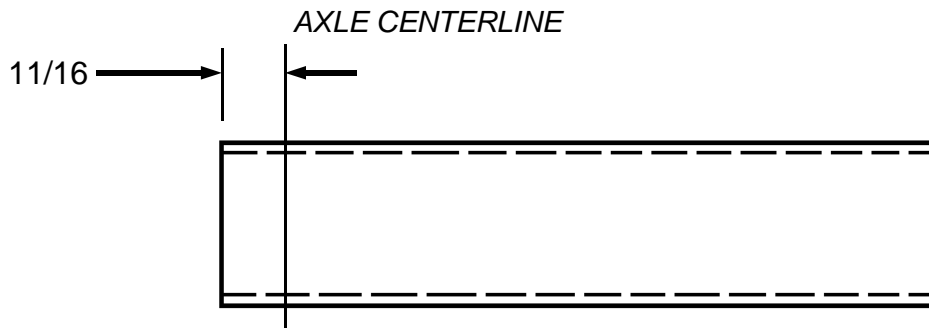
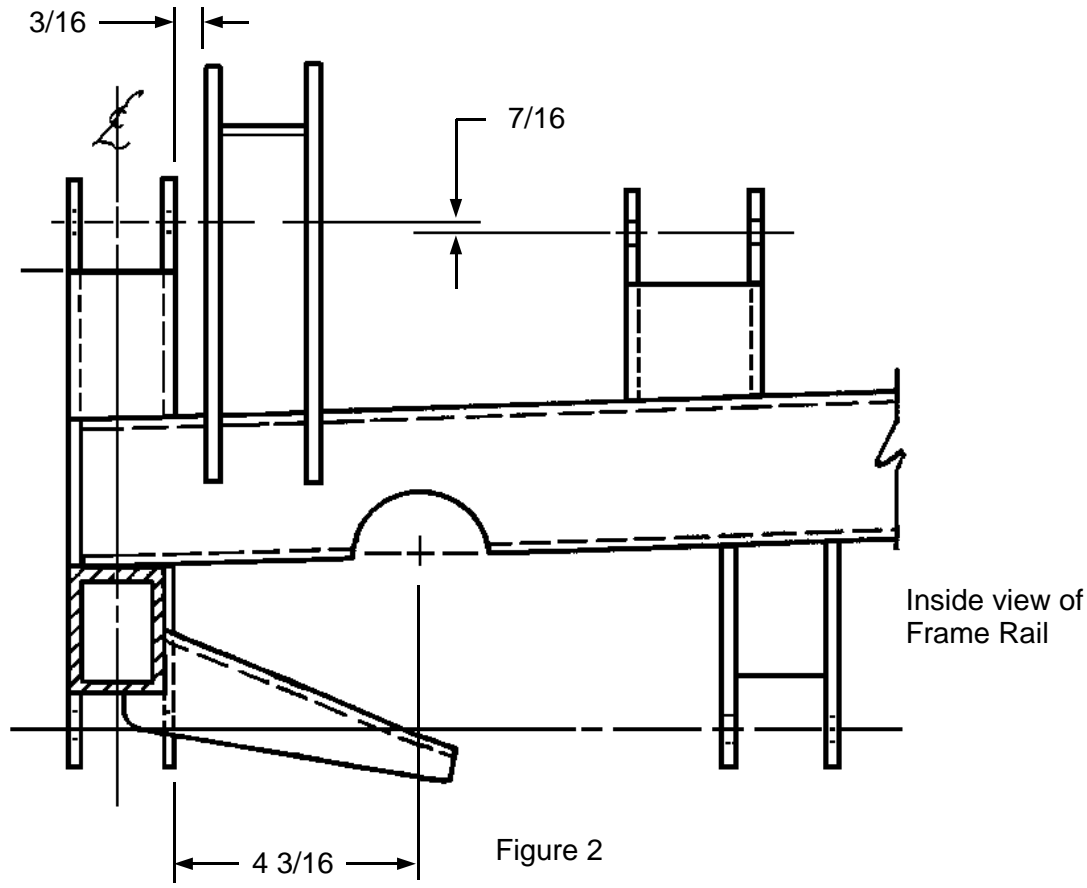

Figure 1
Figure 2
3. Locate your axle centerline markings. Make a new mark 11/16" forward of the axle centerline mark . See Figure 1. This mark is to be a cut line, scribed around the rails exactly vertical to the ground (not necessarily square to the rails) and straight across the front from rail to rail. The crossmember has front plates on it which will cap the fronts of the rails, so you can see how the rails need to be trimmed. It is important that the crossmember be vertical, and not necessarily square to the rails themselves. This has to do with the caster and anti-dive. See Figure 2.
4. The crossmember can be trial fitted onto the rails now. The plates on the crossmember will cap the ends of the rails, and the rails should also fit up against the side uprights. If not, some fitting may be required. Once the crossmember is fitted correctly, again making sure that it is vertical, it can be tack welded in place. See Figure 2. It is not recommended to finish weld it in place at this time. The finish welding should be done only after the entire installation is complete and all the components are installed and lined up. Again, the old saying "measure twice, weld once" is the best way to success for your installation.
- grind/fit the mounts to the underside of the rails. Again, only tack weld them in place. See Figure 2. Remove the tie bar when done.
6. The upper control arm rear mounts are next. Again the upper control arms and tie bar become temporary alignment fixtures. Installation of the upper arms is slightly different, however, due to the adjustable ends. The spindles should be temporarily installed onto the lower control arms and the upper arm ball joints then slipped into the spindles. With the lower arms level, adjust the front adjusters in the upper arms to bring the camber of the spindles to 0°. Snug up the bolts on the front adjusters to align the front tubes straight out from the crossmember. This should give you 1° of caster, also. Now you can position the rear adjusters. They are set using the upper arm temporary tie bar to 26-1/4", which is the same spread as the front adjusters, but are located lower than the fronts by 7/16". See Figure 2 & 3. This rearward tilt of the upper arms is the anti-dive angle. A piece of threaded rod does not work here since the bolt holes in the main crossmember do not tilt downward. Bolt the tie bar onto the upper mounts and adjusters. Fit the mounts to the frame, keeping them vertical and spread dimension correct when fitting them. Remove the tie bar when done.
7. Next install the coil-over rocker mounts. Position them back 3/16" from the front upper arm mounts, as shown in Figure 2. Again using the temporary rocker mount tie bar, space them apart 11-3/16" as shown in Figure 4 and fit them to the frame. Once they are fitted, then tack weld them in place.
8. The C-Notch in the frame is the last part to do. Carefully layout the sides of the frame as shown in Figure 2. Again, it is better to cut a little at a time and grind a little to fit than to cut too much away. After the notch is cut out, install the rack and slip the C-notch pieces in to check the clearance around the rack boots. A minimum of 1/8" clearance around the rack boots should be provided as the boots move around slightly as the suspension travels.